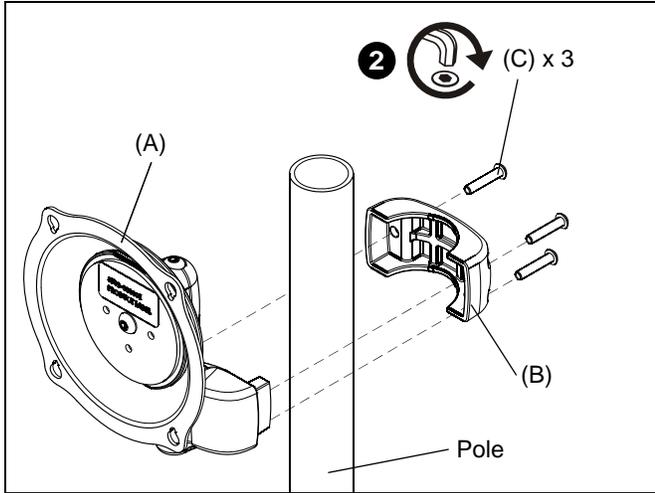

Figure 1
2. Place mount (A) against pole, with clamp (B) on opposite side of pole (See Figure 1). Using 5/32" hex key (D), loosely assemble with three 1/4-20 x 1-1/4" button head cap screws (C).